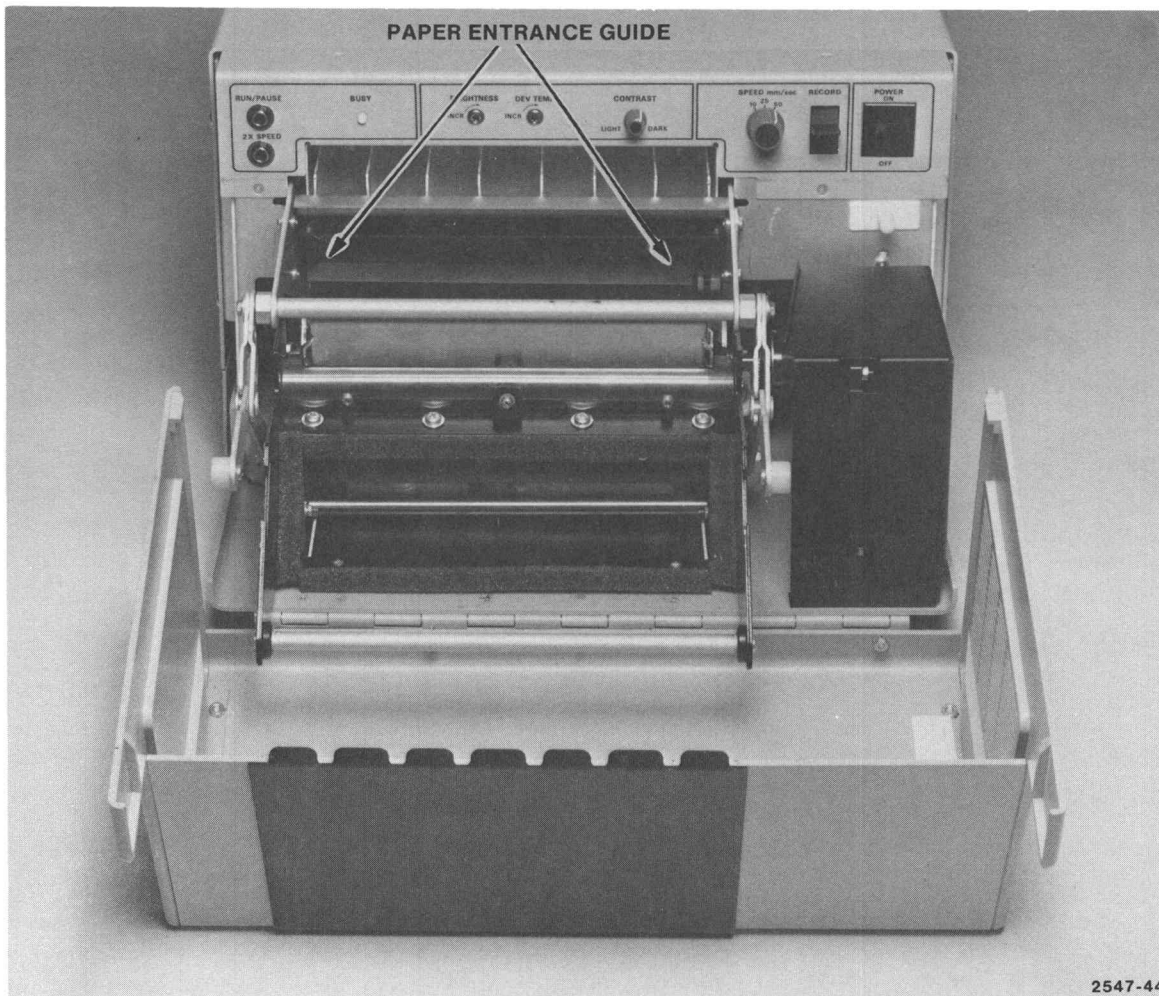

Figure 4-14. Processor Entrance Paper Guide.
3. Remove the processor entrance paper guide (Figure 4-14) by loosening the screw on either side, toward the rear of the instrument. **Do not** loosen the two screws toward the front, which hold the paper guide springs.